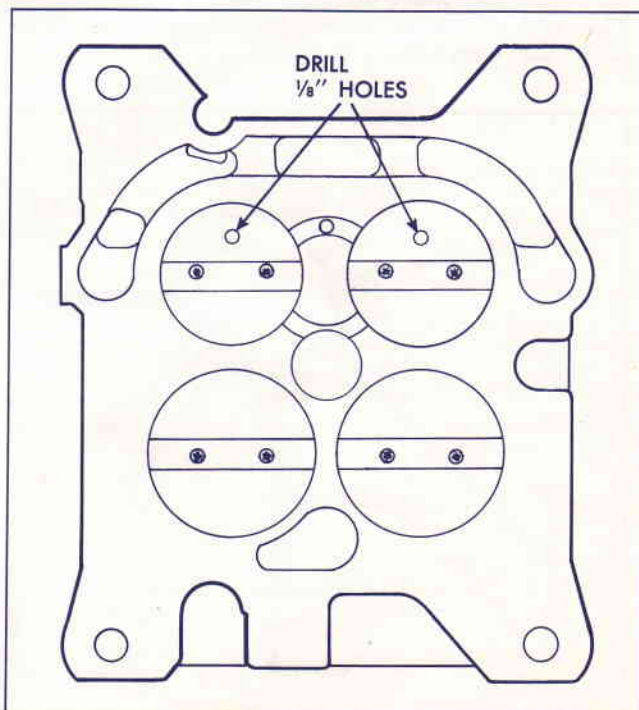

Fig. 8 Drill Holes In Primary Throttle Plates
2. Invert carburetor and drill a 1/8" diameter hole in each primary throttle plate as shown in Fig. 8. Do not drill secondary throttle plates.